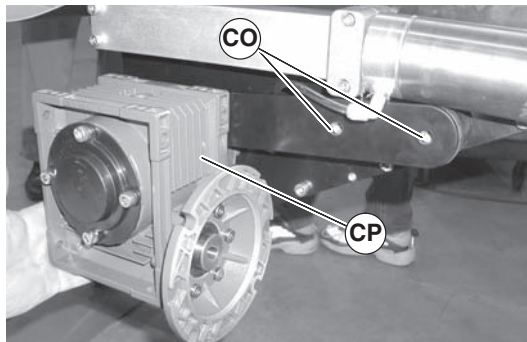

**Figure 76**
1. Remove air supply and remove hose (Figure 76, item AO) from center drive.
2. Remove screws (Figure 76, item CM) and guard (CN).